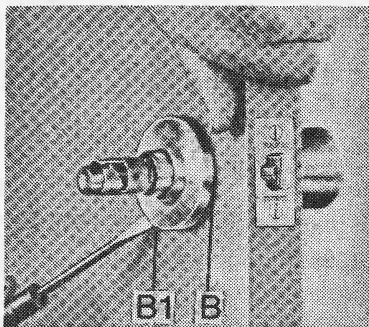

Fig. 10-2.
2. With the knob removed (Fig. 10-2), position the screwdriver into the small notch (B1) usually located on the bottom edge of the inside rosette (B) and, with a prying motion, snap off the inside rosette.